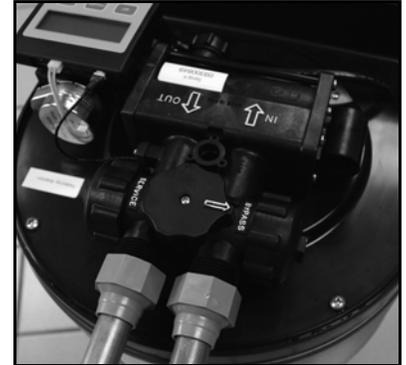

Figure 7: Bypass Position
- A. If your appliance is equipped with a bypass, place the appliance in the Bypass position. (See Figure 7.)